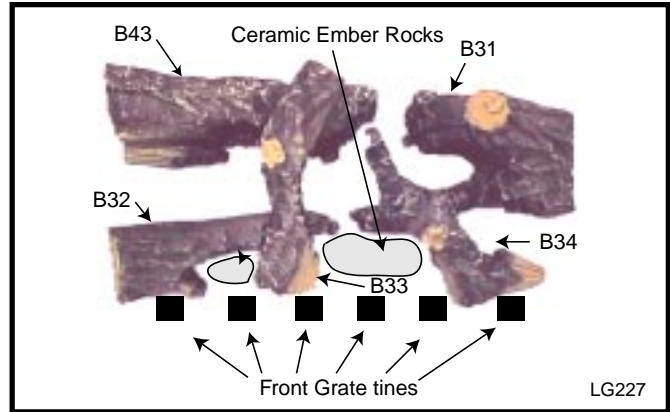

Fig. 43 DVRT36 logset and ember placement
DVRT36 - Refer to Figure 43.
3. Fit the **left-rear log (B43)** to the left side of the rear log support. The two (2) holes in the log locate on the two (2) studs of the support.
4. Fit the **right-rear log (B31)** to the right side of the support. The two (2) holes in the log locate over the two (2) studs of the support.
5. Fit the **left-front log (B32)** to the support bracket over the burner housing. Again, the two (2) holes in the log locate on the two (2) studs on the bracket.
6. Place the **left-top log (B33)** across the left front and rear logs. (Fig. 43) The hole under the end of this log locates over the knob on the left rear log. The forward end of log B33 rests in the cutout in the left front log.
7. Place the **right-front log (B34)** in position by resting the 'heel' of the log between the outside and first prong of the front grate and laying the log down in the cutout of the right rear log. (Fig. 43)
8. Scatter the **Ceramic Ember Rocks (Part #57897)** over the burner housing assembly in the area forward of the front logs. Refer to shaded areas in Figure 43.
3. Install the **right-rear log (B46)** on the rear log support. The two (2) holes in the base of the log locate on the two (2) studs in the log support.
4. Install the **left-rear log (B45)** on the rear log support. The two (2) holes in the base of the log locate on the two (2) studs in the log support.
5. Install the **left-front log (B48)** on the left side of the burner housing. The two (2) holes in the base of the log located over the two (2) studs on the burner housing bracket.
10. Scatter the **Ceramic Ember Rocks (Part #57897)** over the burner housing assembly in the area forward of the front logs. Refer to shaded areas in Figure 43.